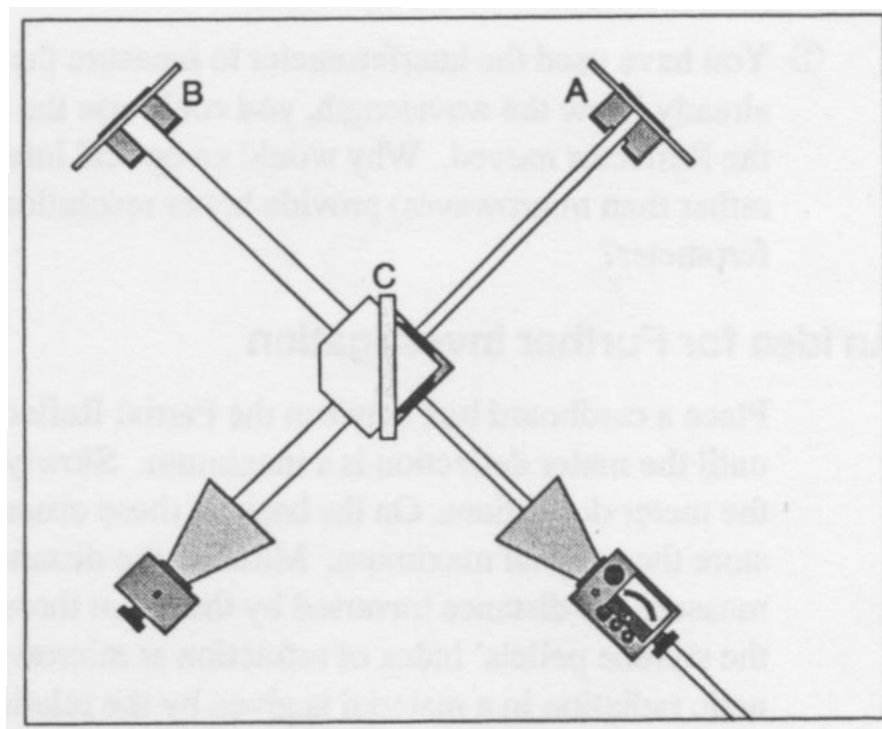

Figure 6: Michelson interferometer.
11. Set up the fixed arm and goniometer assembly as in Figure 6. Place a partial reflector (C) on a component holder on the degree plate. Place two metal reflectors (A and B) on the arms facing the transmitter and receiver units. Check the orientation of the partial reflector with respect to the transmitter and receiver units. Set the receiver controls for a near full-scale reading. Ensure that you can move reflector A back by about 25cm on the ruler. Slowly move the receiver unit and observe the relative maxima and minima of the meter readings. Set the receiver meter to a position where a maximum is observed. Record the initial position of reflector A.